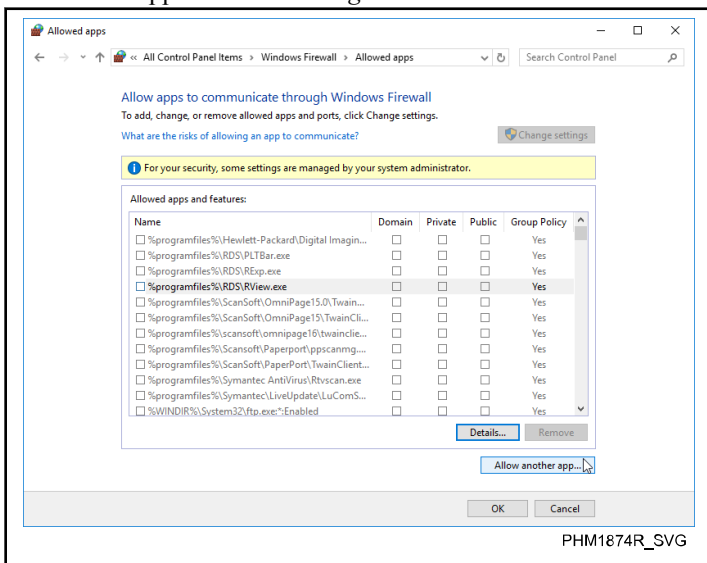

Figure 41
3. From the "System and Security" window, click **Allow a program through Windows Firewall**. The "Allowed Programs" window appears. Refer to *Figure 41*.